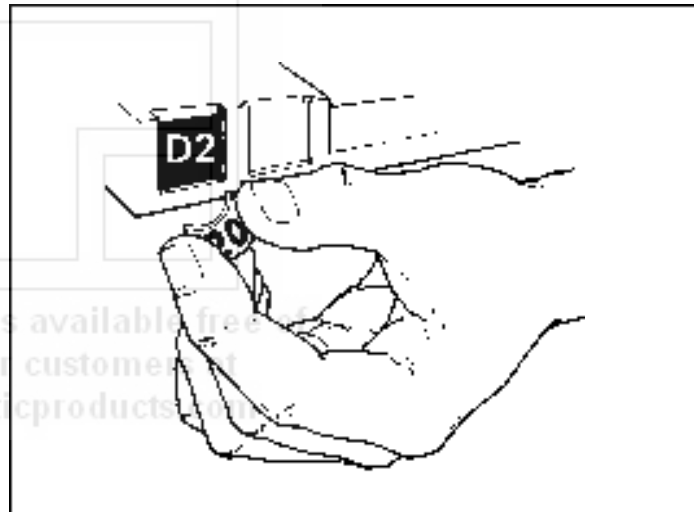

Figure 9. Installing price tabs.
12. **Install Proper Price Tabs** into price tab holder for each selection in the main product area. (*Figure 9.*)